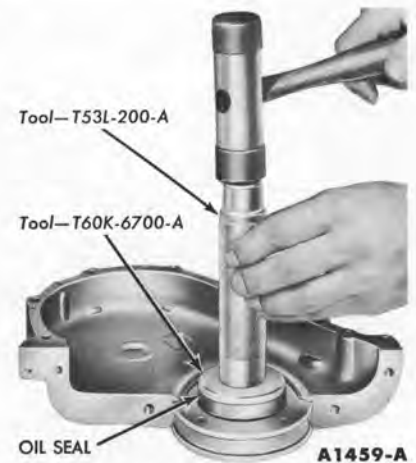

FIG. 48—Crankshaft Front Oil Seal Replacement—Typical
2. Coat a new seal with grease and install the seal (Fig. 48). Drive the seal in until it is fully seated in the recess. Check the seal after installation to be sure the spring is properly positioned in the seal.